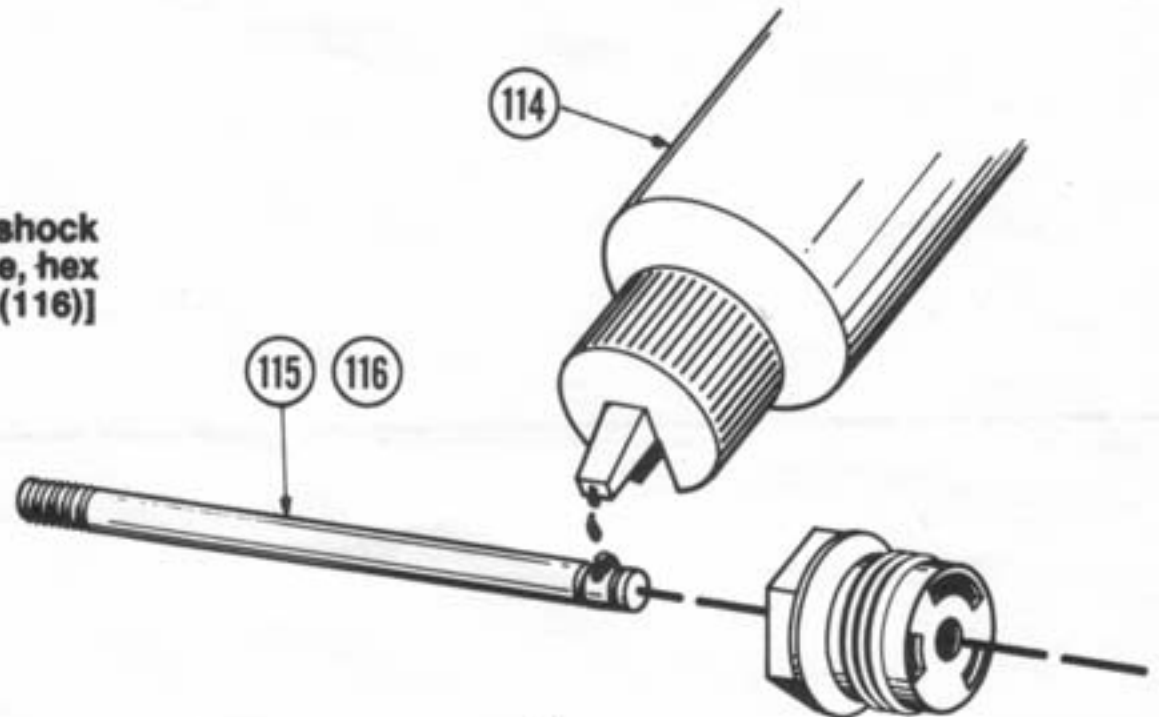

Figure 44
3. Place a drop of oil (114) on grooved end of shock shaft [Front (115), Rear (116)] and slide cartridge, hex end first, down shock shaft [Front (115), Rear (116)] towards the threads. Fig. 44